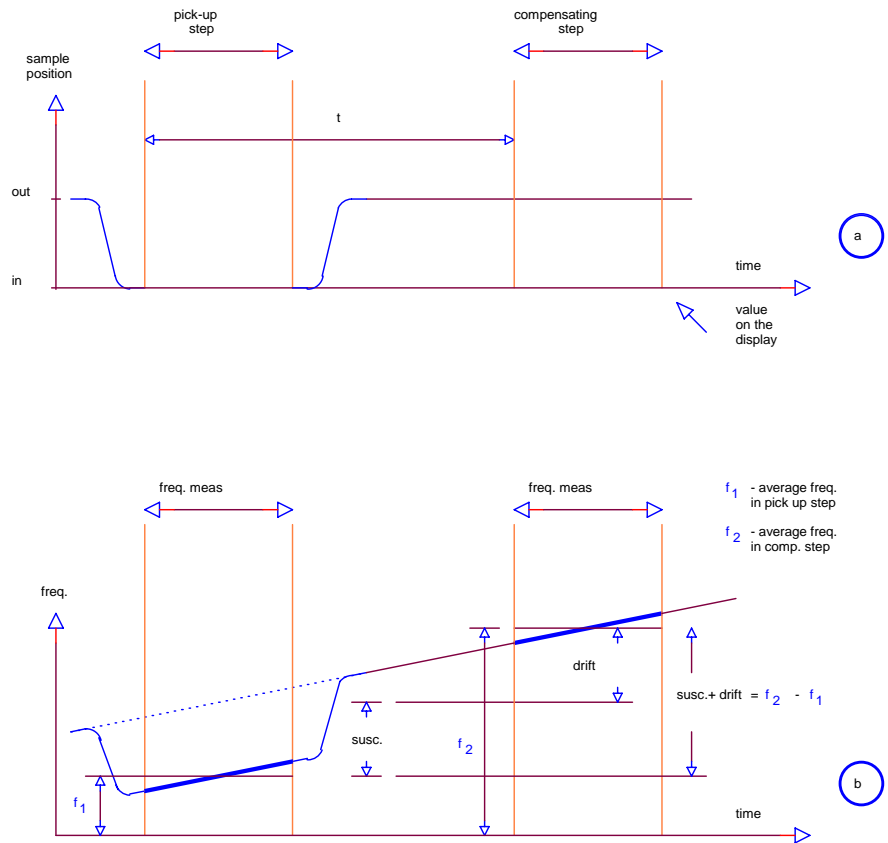

Fig.1
the oscillator in two steps. First measurement takes place while the rock sample is inside. This step is further referred to as "**the pick-up step**". Second measurement takes place after the rock sample is removed from the pick-up coil ("free air measurement"). This step is further referred to as "**the compensation step**". It is the difference in the both frequencies that indicates the value of magnetic susceptibility. The above mentioned method of measurement is illustrated in Fig.1
4.1 Figure 1